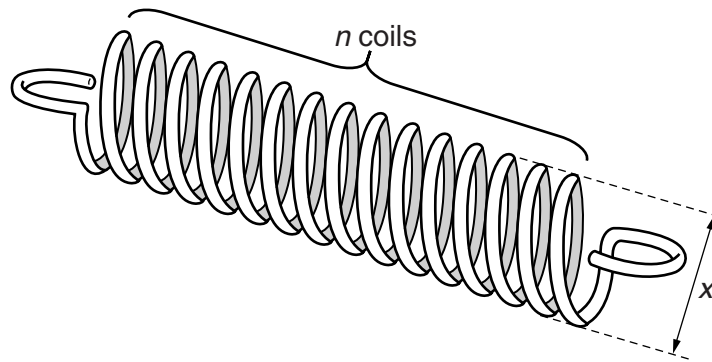

Fig. 2.3
- (iii) Count and record the number n of coils in your spring, and measure and record the outside diameter x of your spring, as shown in Fig. 2.3.